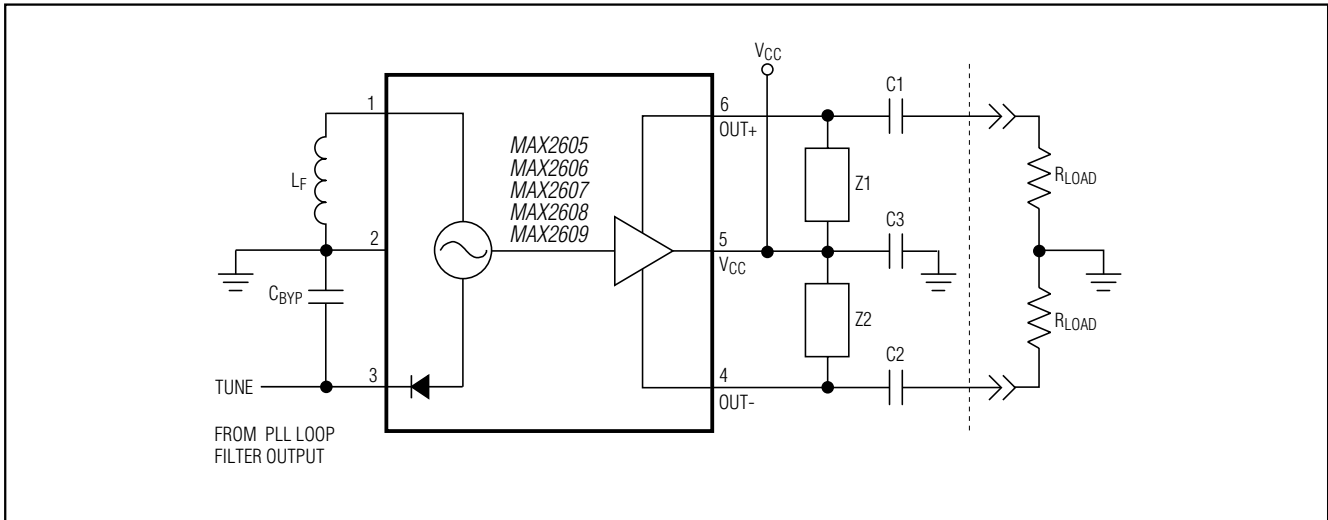

Figure 6. Typical Operating Circuit
**Note 4:** Application range of the part is achieved using external inductance as specified in Figures 1-5 and shown in Figure 6. The internal varactors support center frequencies of 45MHz to 650MHz. The center frequency is defined by the value of the external inductor element,  $L_F$ . The application frequency limits are guaranteed by design and characterization.
**Note 8:** The phase-noise specifications listed apply to the typical operating circuit shown in Figure 6. Apply over the entire operating frequency range of the MAX2605–MAX2609.
In Figure 6, Z1 and Z2 are 1k $\Omega$  pull-up resistors that are connected from OUT+ and OUT- to VCC, respectively. These resistors provide DC bias for the output amplifier and are the maximum value permitted with compliance to the output voltage swing limits. In addition, the 1k $\Omega$  resistors maximize the swing at the load. DC-blocking capacitors are connected from OUT- and OUT+ to the load. If the load driven is primarily resistive and the VCO operating frequency is below the -3dB bandwidth of the output network, then the peak-to-peak differential signal amplitude is approximately:
To optimize the output voltage swing or the output power, use a reactive power match. The matching network is a simple shunt-inductor series-capacitor circuit, as shown in Figure 6. The inductors are connected